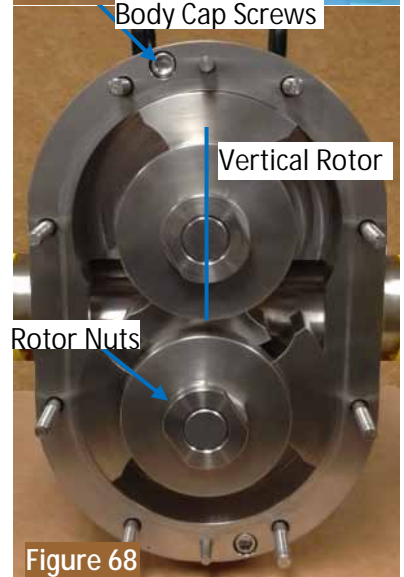

Figure 68
3. Slide a rotor onto the shaft, align the large spline tooth with the large groove in the rotor. Rotate the shaft until the rotor wings are on a vertical centerline, Figure 68. Slide the second rotor onto the shaft.